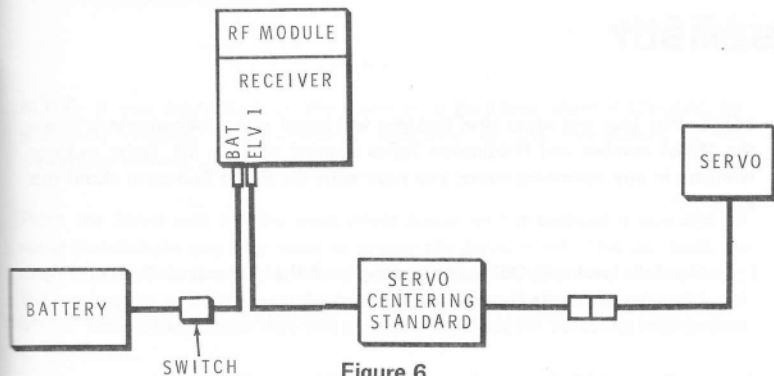

Figure 6
- () Connect the Servo to your receiver through the Servo Centering Standard (supplied with the Transmitter) as shown in Figure 6.